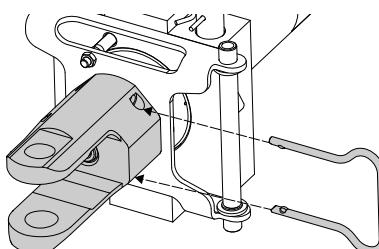

Figure 5
7. Pin the appropriate yoke to the ram piston with the spring clip. (Fig. 5) To bend 3-1/2" and 4" conduit after using the extended yoke, change to the yoke and leave the cylinder block in the top position.